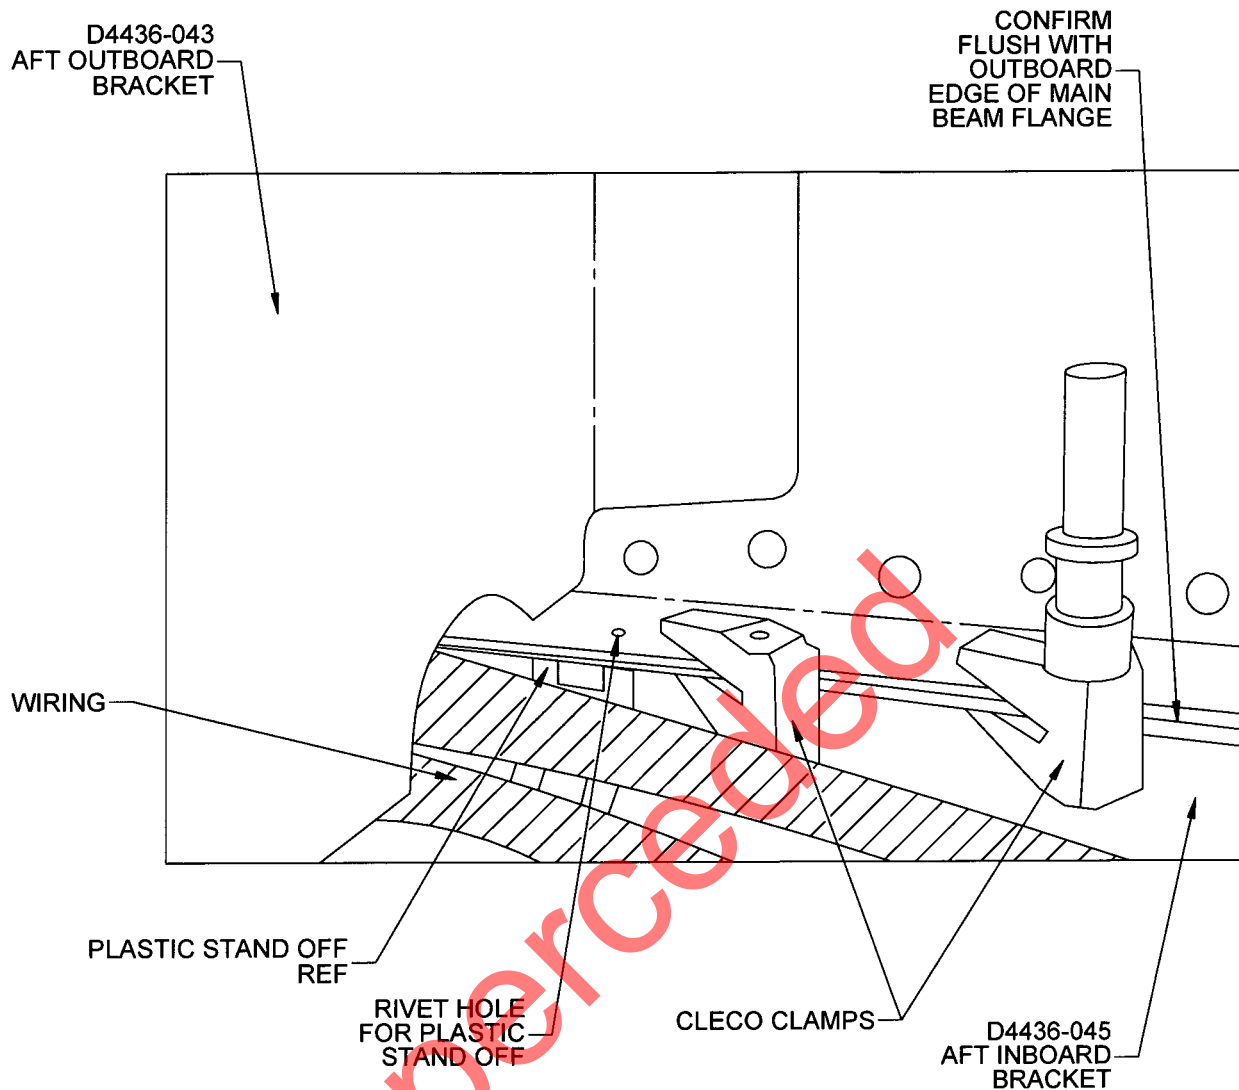

Figure 6. D4436-043 & D4436-045 Brackets Installation D
- 4.4 Drill off rivets holding plastic wire bundle stand offs. Transfer drill $\varnothing 0.144$ holes to D4436-045 Aft Inboard Bracket per Figure 6. Transfer drill 2 x $\varnothing 0.144$ holes to D4434-043 Fwd Inboard Bracket per Figure 7. Transfer drill 2 x $\varnothing 0.144$ holes for D4434-043 Fwd Inboard Bracket per Figure 8. Before drilling confirm the D4434-043 and D4436-045 brackets are flush with outboard edge of main beam flange. Assemble D4436-045 Aft Inboard Bracket and D4434-043 Fwd Inboard Bracket and wire bundle stand offs to main beam flange using MS35206-229 screw, NAS1149FN616P washer and MS21042L06 nut.